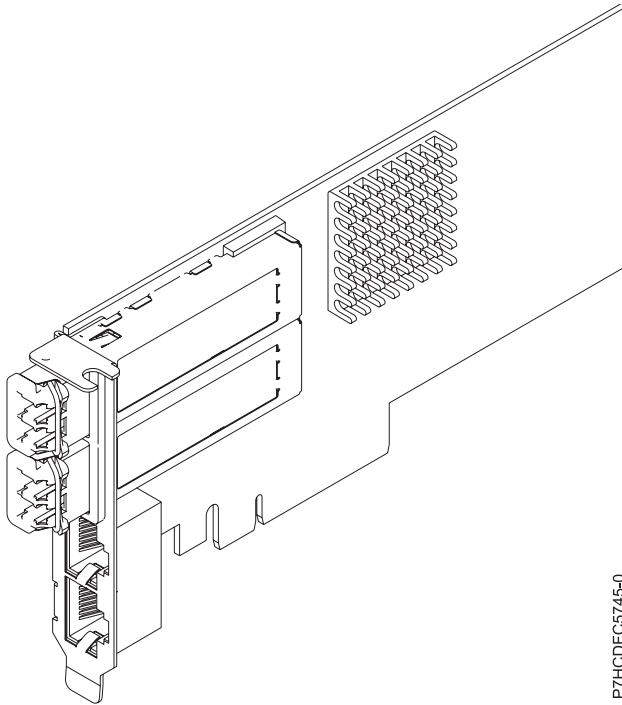

Figure 78. FC EN0L adapter
The four-port adapter provides two 10 Gb FCoE Copper Twin-axial ports and two 1 Gb RJ45 Ethernet ports. The two 10 Gb FCoE ports are connected by little connector-type (LC) connectors. Each FCoE port provides Ethernet connectivity with a nominal data rate of 10 Gbps (gigabits per second). Each of the 1 Gb ports provides Ethernet connectivity at a data rate of 1 Gbps and is connected with Ethernet cables. A 10 Mb data rate is not supported. Figure 78 on page 243 shows the FC EN0L adapter.